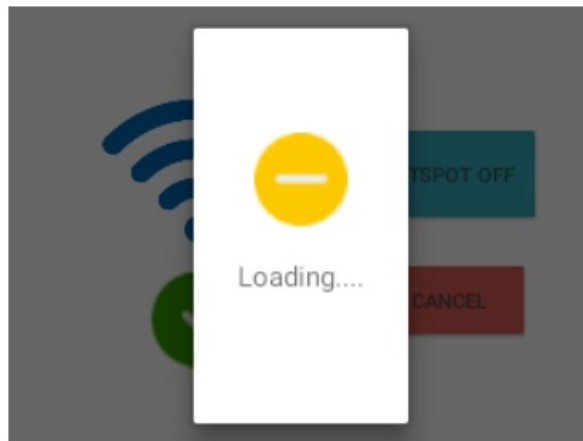

Fig. 11
1. Tap the corresponding button (“HOTSPOT OFF” to disconnect the hotspot, or “HOTSPOT ON” to connect it) above the “CANCEL” button. A new screen appears and shows the progress status of the hotspot connection (Fig. 11).